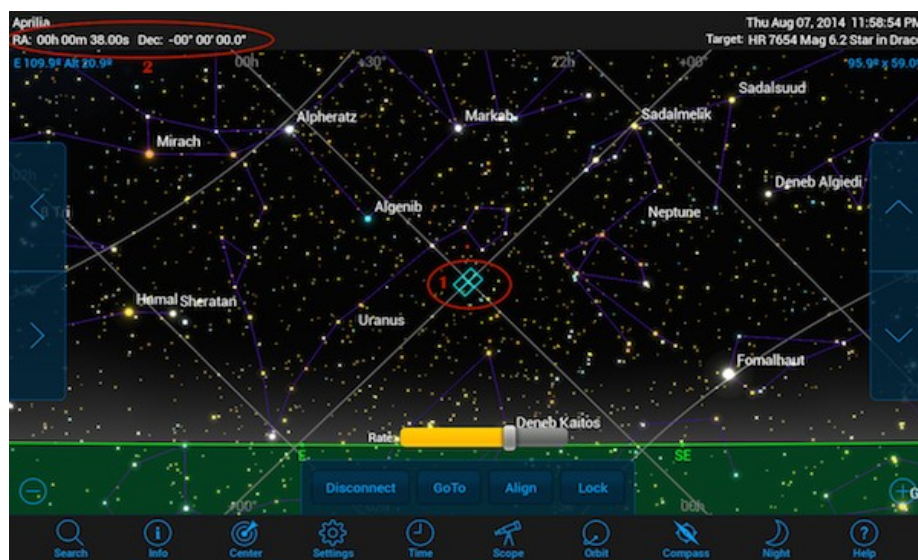
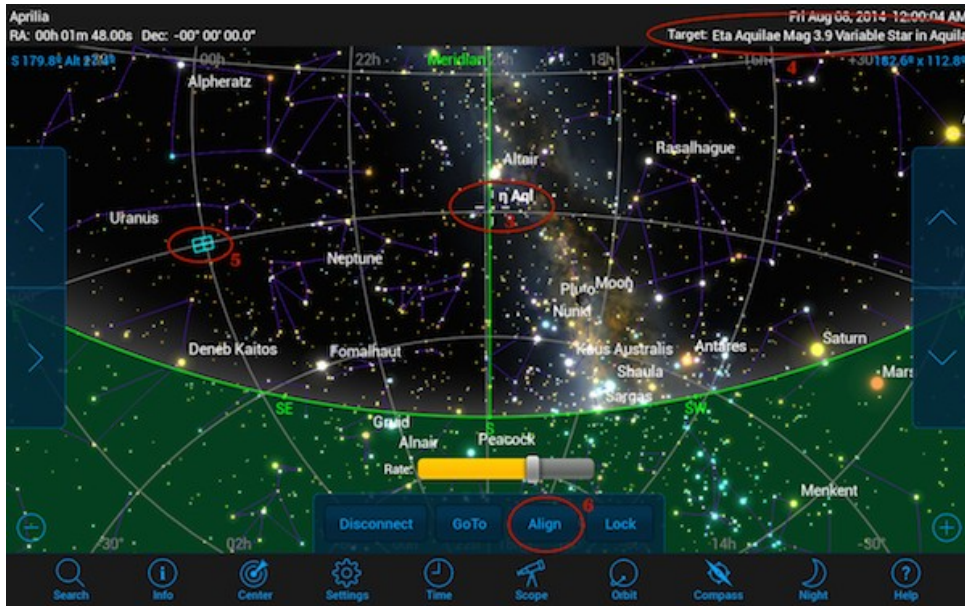
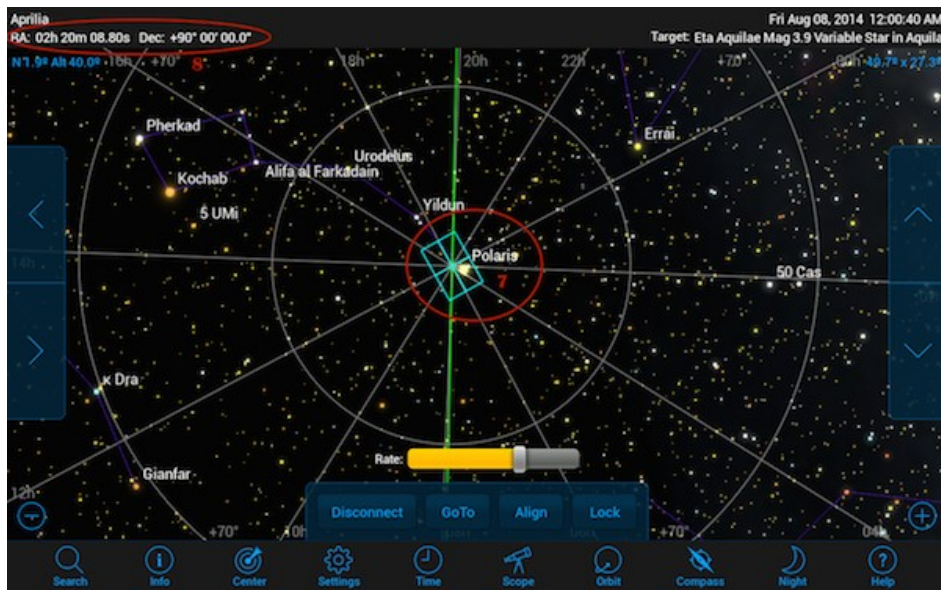

Figure 4.4c. SkySafari connected
Figure 4.4d. Sync on southern horizon
Figure 4.4e: System aligned
- b. **Alt-Az mode:** operation the telescope only needs to be pointing toward the North Celestial Pole, but the mount should be accurately levelled (see figure on the right below). Connect the power supply to the StarGO control unit then connect the mount to the device by pressing the “Connect” button at the bottom of the planetarium application screen as shown in Figure 4.4c.
2. After few seconds the “Connect” button will change to read “Disconnect”. A chime will sound and the telescope FOV pointer position (CCD or eyepiece) on the SkySafari screen will appear exactly at coordinates RA=0, DEC=0 if the mount is in Equatorial mode or with the coordinates of the North Pole if the mount is in Alt-Az mode. The commands to the right of “Disconnect”, i.e. “GoTo”, “Align” and “Lock” will become active Figure 4.4c.
The following sequence of three SkySafari screenshots, taken with the mount in equatorial mode, is useful to understand the event sequence and its results: They were taken a) just after the connection has occurred (Figure 4.4c), b) at the moment of syncing to a near South Meridian star (Figure 4.4d) and c) after the “Align” function is carried out (North Celestial Pole area, Figure 4.4e).
The second phase in this sequence is the choice of any star very near to the Meridian and to the Southern horizon. In this case the star is η Aql (see ovals 3 and 4 of figure 4.4d). Note that the telescope is still in the initial position (oval 5). Again it is possible to see a small difference in RA from the point 0,0 due to the time lapse. At this point it is possible to tap the “Align” command on the “Telescope Bar”.